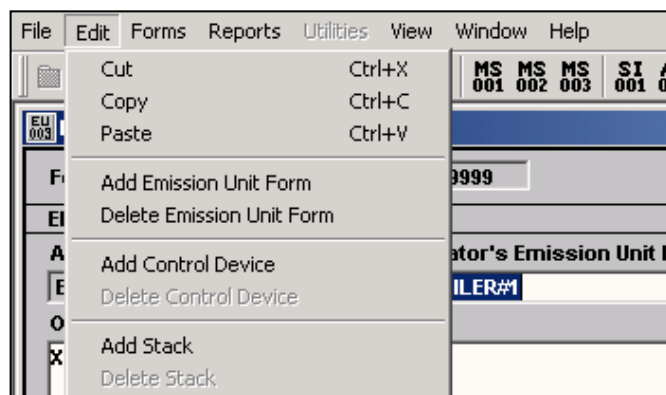

Figure 3-3: Edit Menu
**Adding and Deleting Records:** Use the Edit menu to add or delete information on a form (see Figure 3-3). This menu will change depending on the current form. The example shown in Figure 3-3 is for the EU-003 form. When choosing delete, the current record you are positioned on will be deleted. The Form Completion Instructions included in Chapters 4 through 11 provide detailed explanations about how to add and delete information on a particular form.